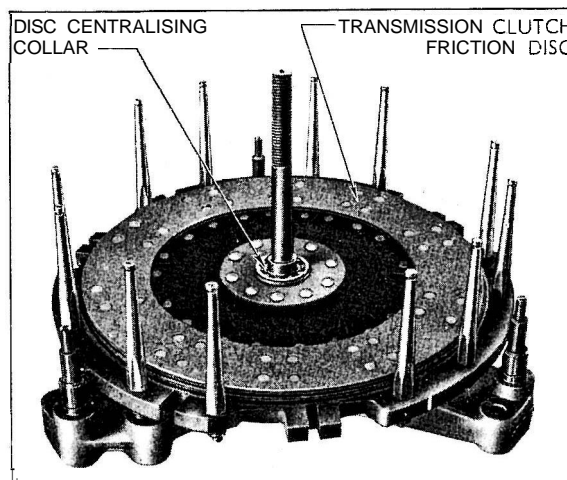

Fig. 16
1. Fit the transmission pressure plate in the assembly fixture so that it is resting on the three raised lugs cast in the base arms, and position the plate so that the slots for the actuating struts are situated centrally between the centre drive plate locating legs on the assembly fixture (see Fig. 16).
2. Install the transmission clutch disc over the fixture centre pillar and disc centralising collar T.7502-2Aa with the long boss of the disc hub facing downwards (see Fig. 16). Place the spacing washer T.7502-2A/ab on the top of the shoulder of the fixture centre post.